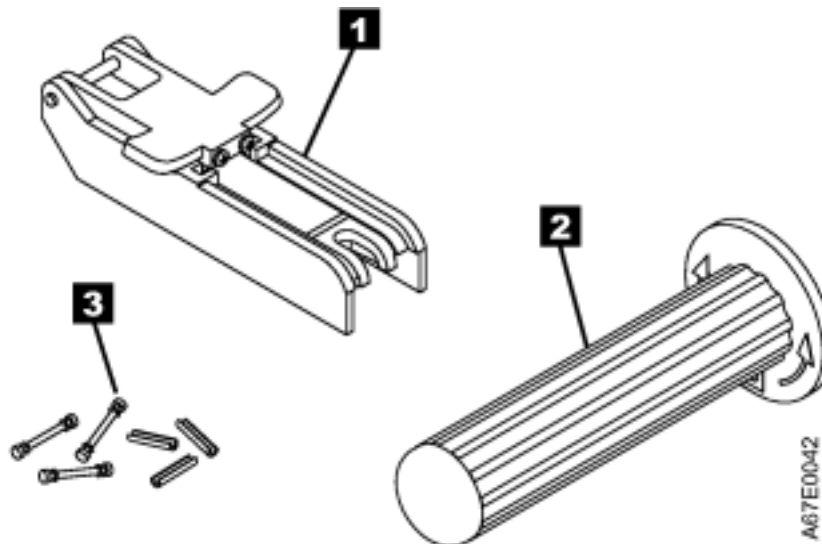

Figure 38. Leader Pin Reattachment Kit
- **Leader pin attach tool** (see **1** in Figure 38 on page 131). A plastic brace that holds the cartridge door open.
- **Cartridge manual rewind tool** (see **2** in Figure 38 on page 131). A device that fits into the cartridge's hub and lets you wind the tape into and out of the cartridge.
- **Pin supplies** (see **3** in Figure 38 on page 131). Leader pins and C-clips.